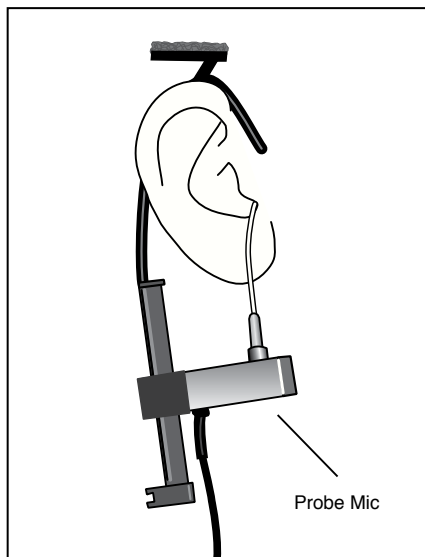

Figure 6.3.5C—Insert probe microphone
2. Insert the probe microphone into the client’s ear, as described in Section 6.2.3. See Figure 6.3.5C.